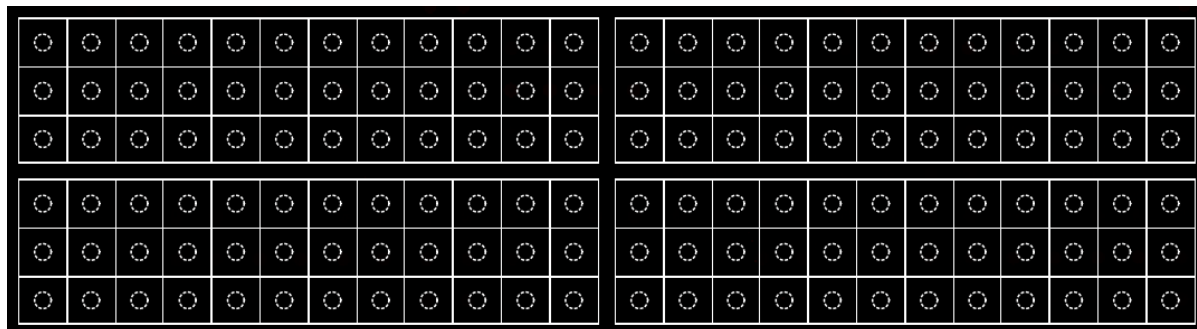
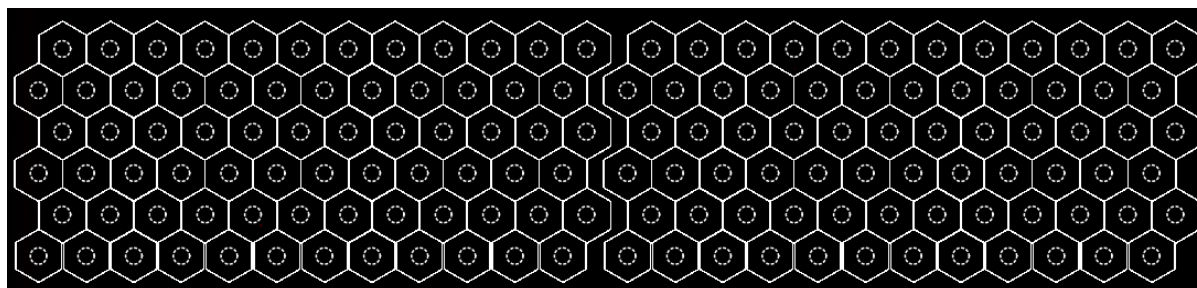

Figure 12. Rectangular Blocks.
Figure 13. Hexagonal (Orange Packing) Blocks.
- **Block type:** Select *Rectangular* for a conventional grid (Figure 12), or select a hexagonal layout such as *Hexagon (orange packing) even row* for a more compact arrangement (Figure 13).
Spacing and diameter values may be fractional, enabling more precise alignment with the image. Click *OK* to add the blocks to the canvas. Figure 11 shows an example configuration, and Figure 12 shows the resulting rectangular blocks.
Figure 13 shows two hexagonal even-row blocks, each containing 6 rows and 12 columns. The horizontal and vertical spot spacings are 288 μm and 249 μm , respectively.